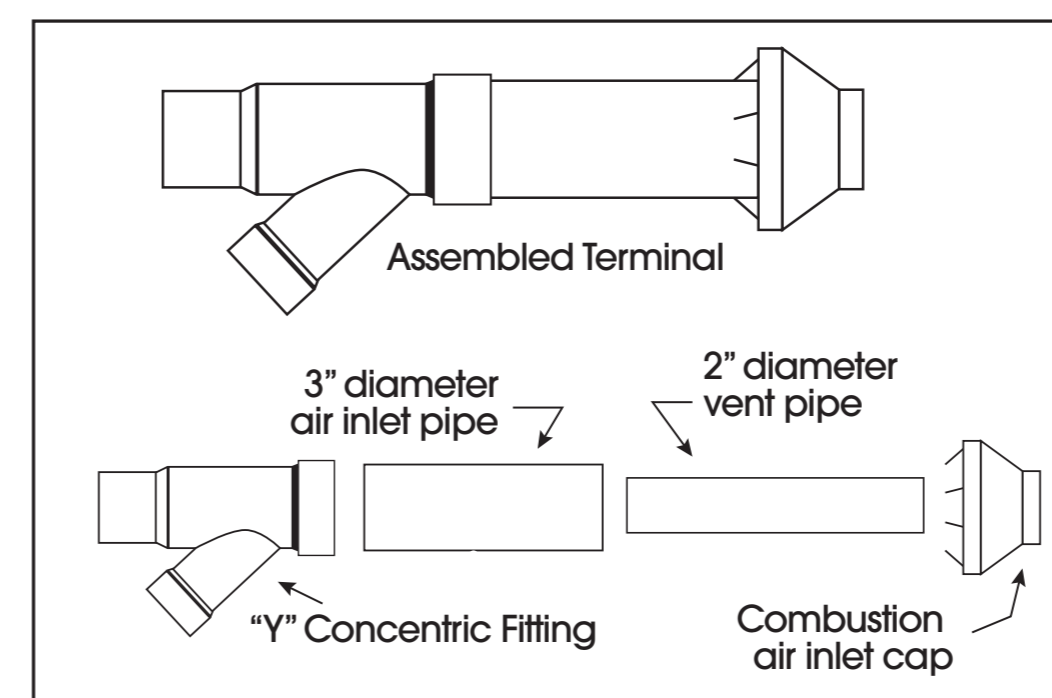

Figure 1—Vent Terminal Assembly
- a. Cement "Y" fitting to larger diameter air inlet pipe (Figure 1).
- b. Cement combustion air inlet cap to smaller diameter pipe (Figure 1).